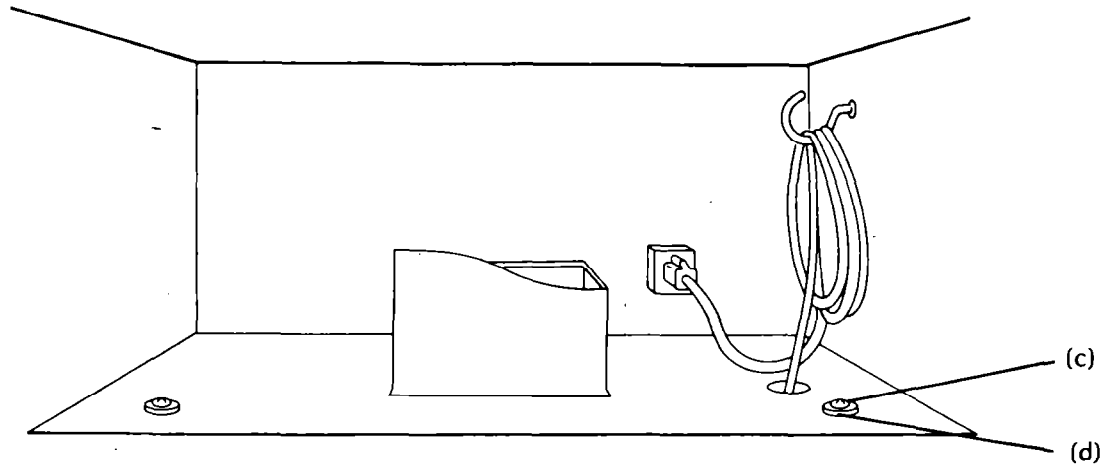

Figure 19
10. Use adjusting screws (c) and flat washers (d) for gaps between top cabinet and unit (Fig. 19).